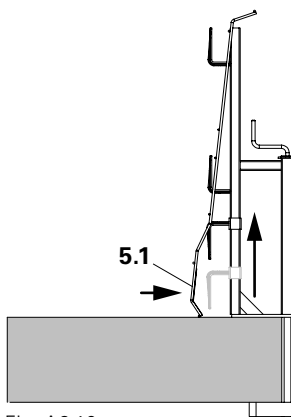

Fig. A2.10
8. Push the toe board (5.1) to the Guardrail Holder-2. (Fig. A2.10)